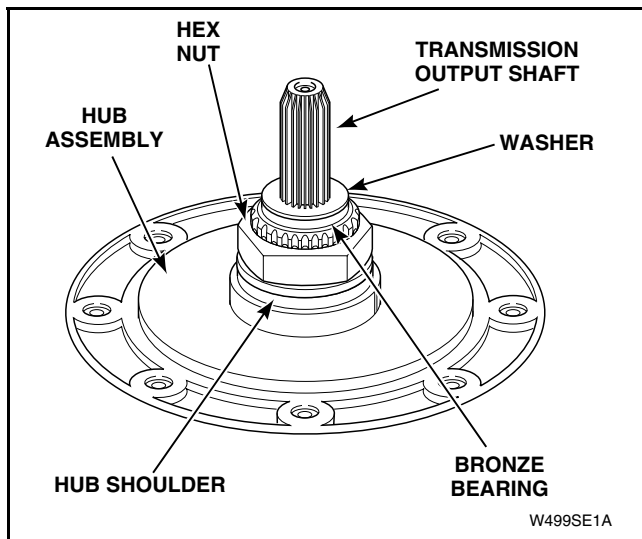

Figure 50
- j. Remove large hex nut using a No. 306P4 Hex Wrench. Refer to *Figure 50*.